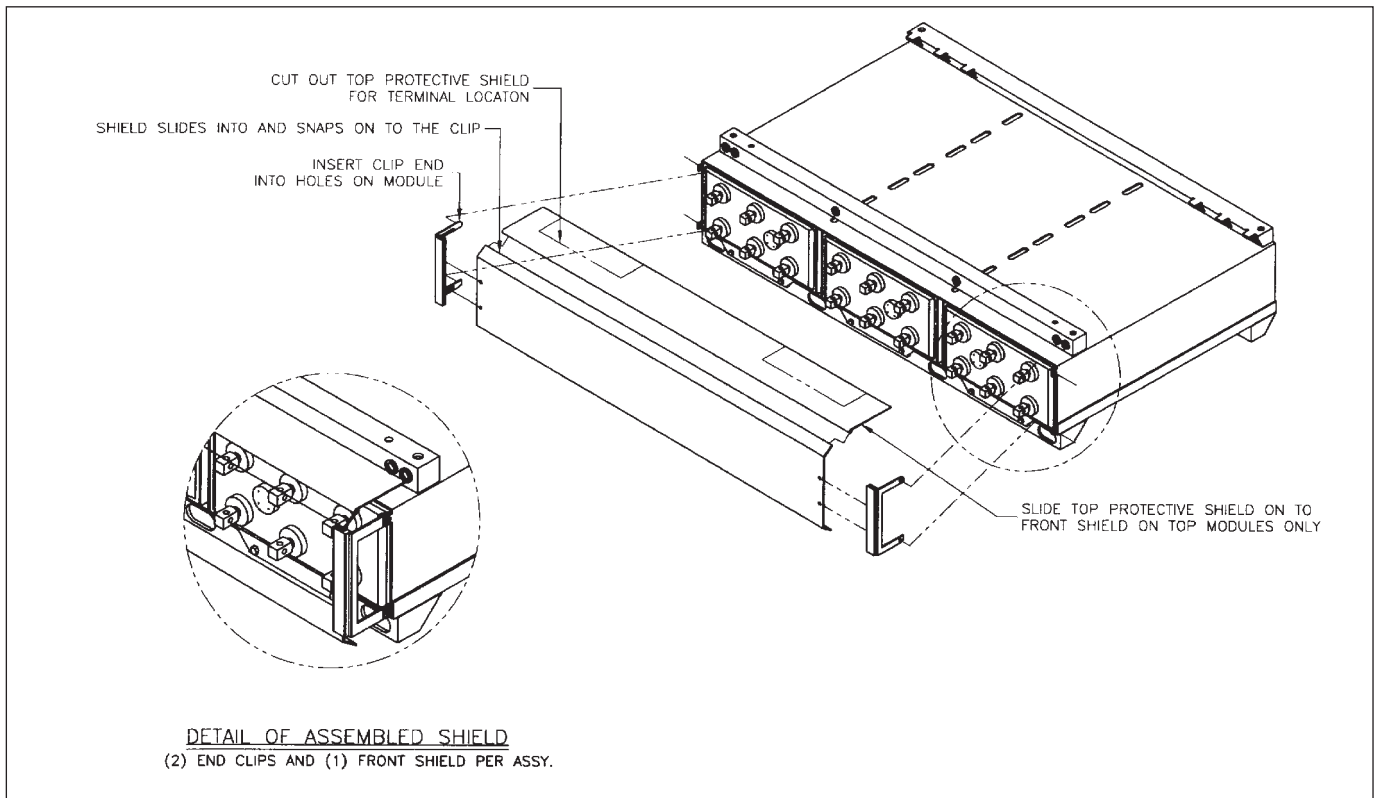

Fig. 5-3
1. Attach one black clip to each end of the clear shield. (See Fig. 5-3, pg. 13 and 5-4, pg. 5.)
For top terminal assembly, cut the black protective cover to fit between the terminals and then attach to the front shield. (See Fig. 5-3, pg. 13.)